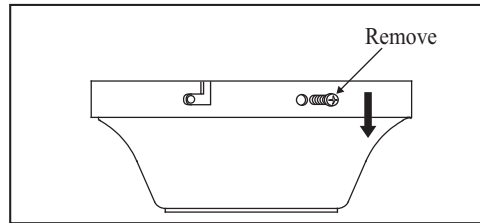

Figure 6
2. Remove the mounting bracket from the canopy by remove the two non-slotted screws and loosen the slotted screws (Figure 6).